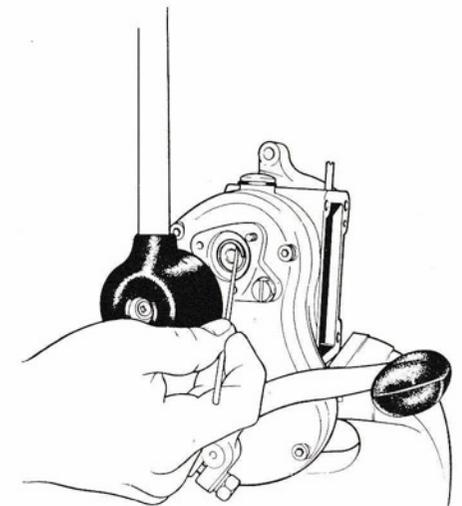

Fig. 40 Gearbox (Transmission) end cover showing Spiralox circlip removal.
- 7 A Spiralox circlip secures the mainshaft. To remove, take a pointed and slightly hooked implement (an old spoke, suitably ground and formed would be ideal), insert under the tail of the circlip and peel out anti-clockwise. (see Fig. 40)
- 2 Remove the Spiralox circlip from the mainshaft – use a pointed and hooked instrument. Insert this under the tail of the circlip and peel off anti-clockwise. (see Fig. 40)